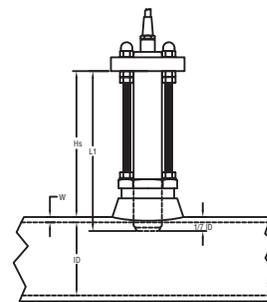

Figure 5
- 2.4 **Mounting:** screw in TDT into the fitting on the pipe side and fix it at the correct insertion depth of 1/7x inner pipe diameter see Figure 5.
- L1: unit length (see Figure 5)